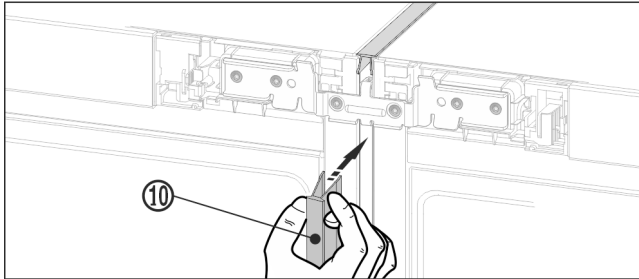

Fig. 25
- ▶ On the front, press the long cover strip Fig. 25 (10) into the vertical gap. Ensure that the strip rests on the connecting plate.